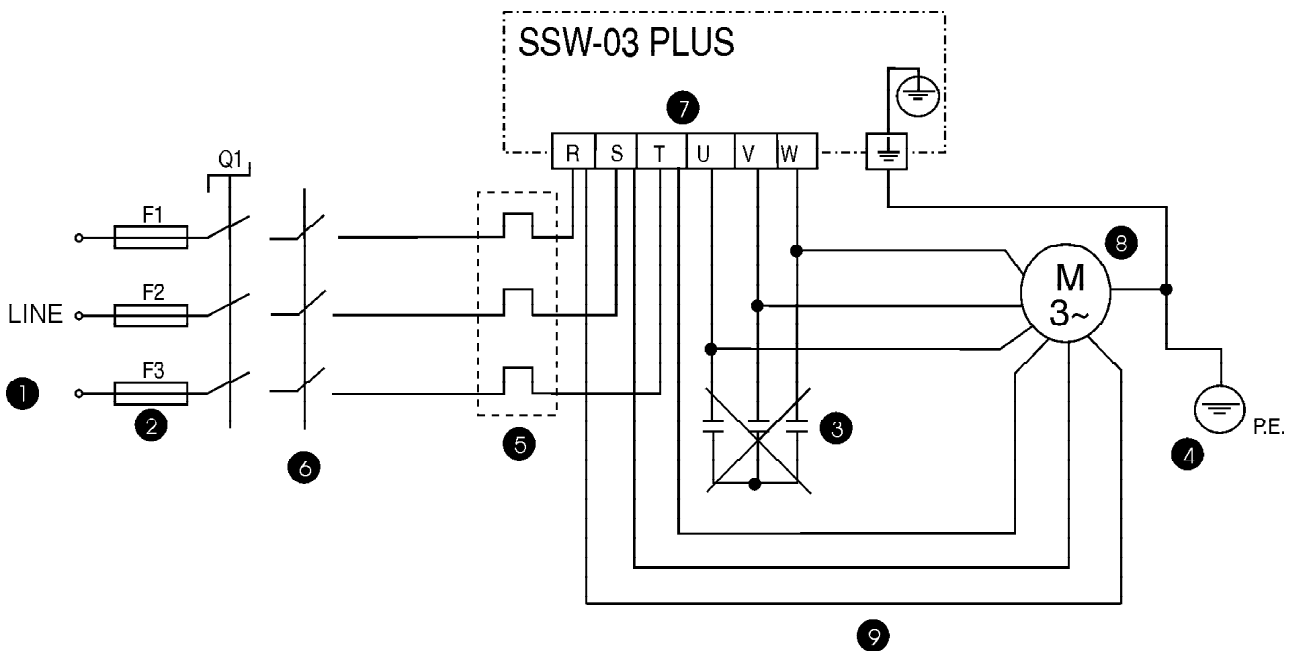

Figure 3.5 - Power and Grounding Connections for connection within the motor delta connection. See also item 6.4.1 in the manual
The connection of the motor to the Soft-Starter must be realized carefully. Follow strictly the connection diagrams according to the winding types shown in figure 3.5 and item 6.4.1.